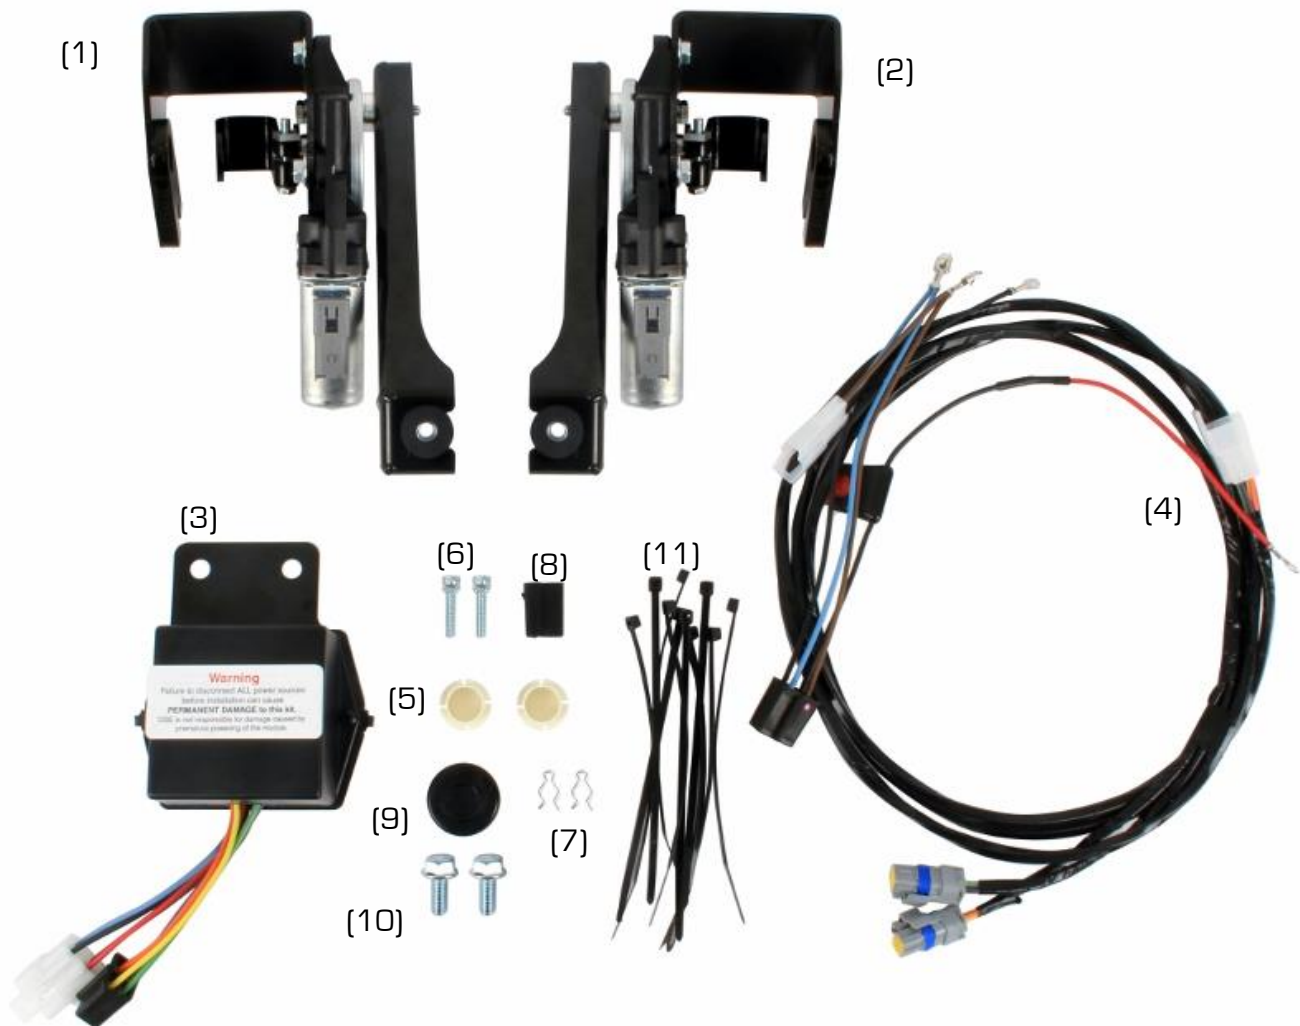
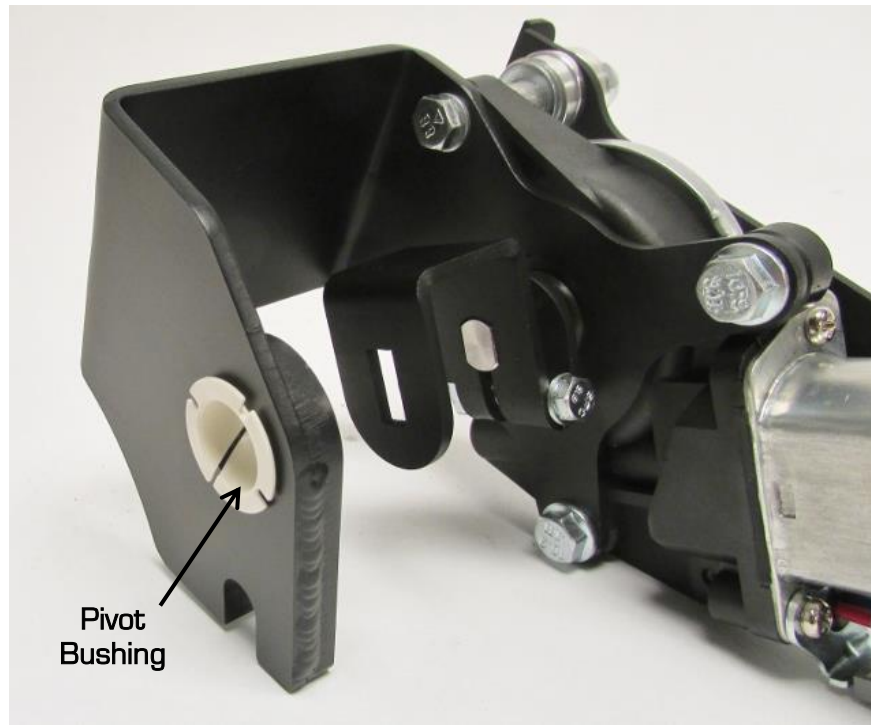

Figure 1
Figure 4 – Install Pivot Bushing
7. With the motor assemblies removed, ensure that the plastic bushings that are located between the motor brackets and the headlamp door pivot shafts (the same bushing that is supplied in the kit (identified as item 5 in Figure 1) are in the brackets. If they did not stay in the motor brackets when removed, remove them from the headlight door pivot shafts or they will interfere with the installation of the new motors.
10. Identify the driver's side actuator assembly (Item 1) and the passenger's side actuator assembly (Item 2) from Figure 1. Install a pivot bushing (Item 5) into the mounting bore of both actuator assemblies (Figure 4 on the next page).